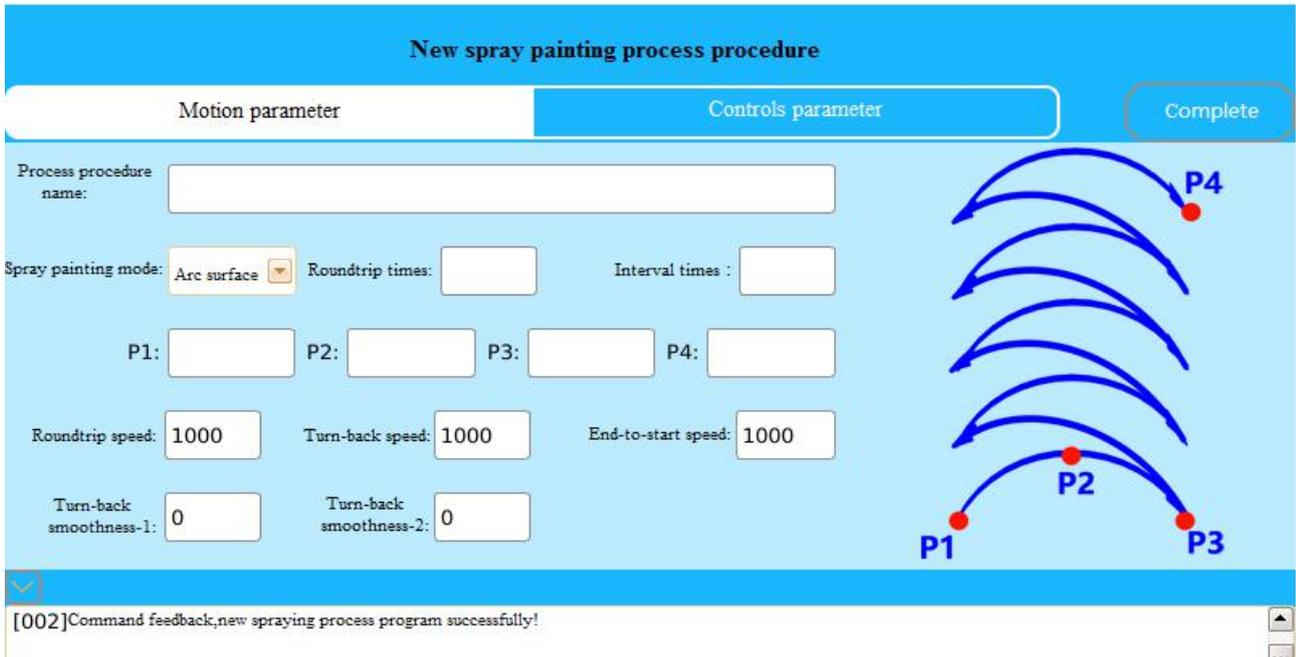

Figure 4.20 “Common arc surface spray painting process” Creation Interface
(5) “Normal arc surface spray painting mode” motion parameter: As shown in Fig. 4.20, it is basically consistent with the “normal plane spray painting mode”, that is, there is more than one intermediate point “P2” in the “circular arc” motion.